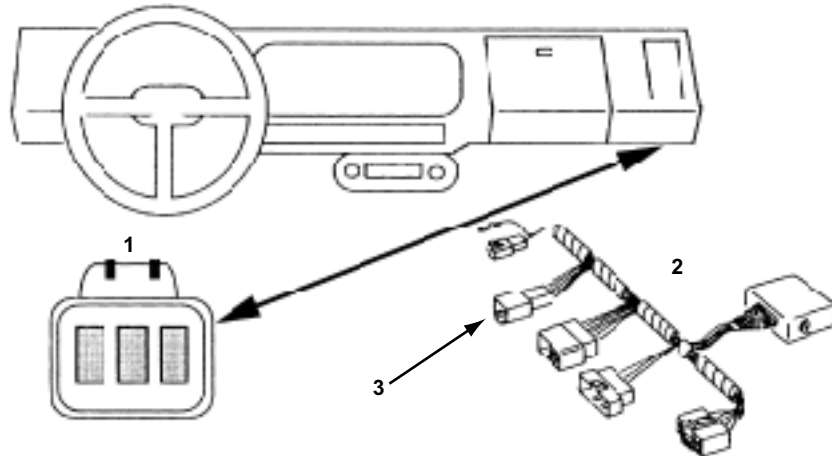

Figure 10-11 1985½–89 I-Mark, 1990 and later Impulse connector and adapter
- Connect the MULTI-2-D adapter to the white 3-pin connector (Figure 10-11 on page 106).